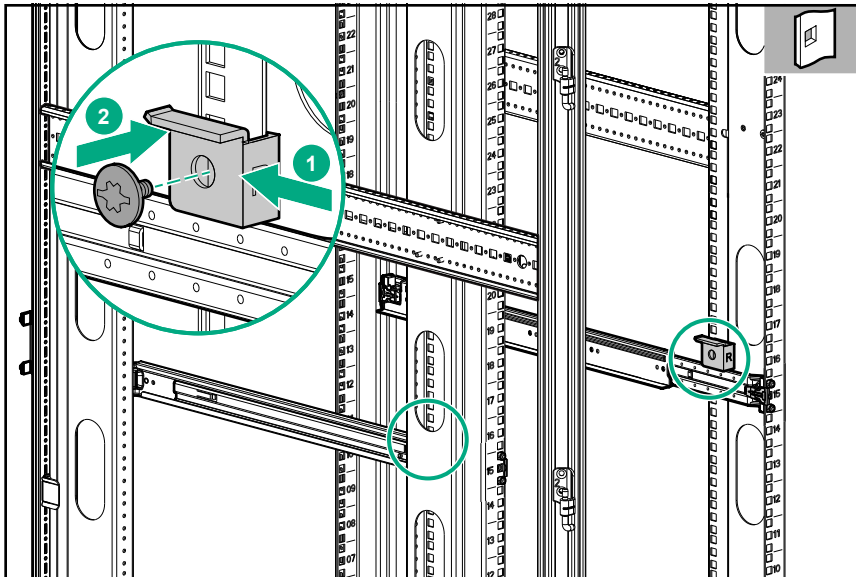

Figure 2: CTO bracket location
3. To secure the StoreEasy 1X60 to the rails, the Configure-to-Order (CTO) bracket at the rear ends of the rails must overlap the chassis tab as shown in Figure 2.